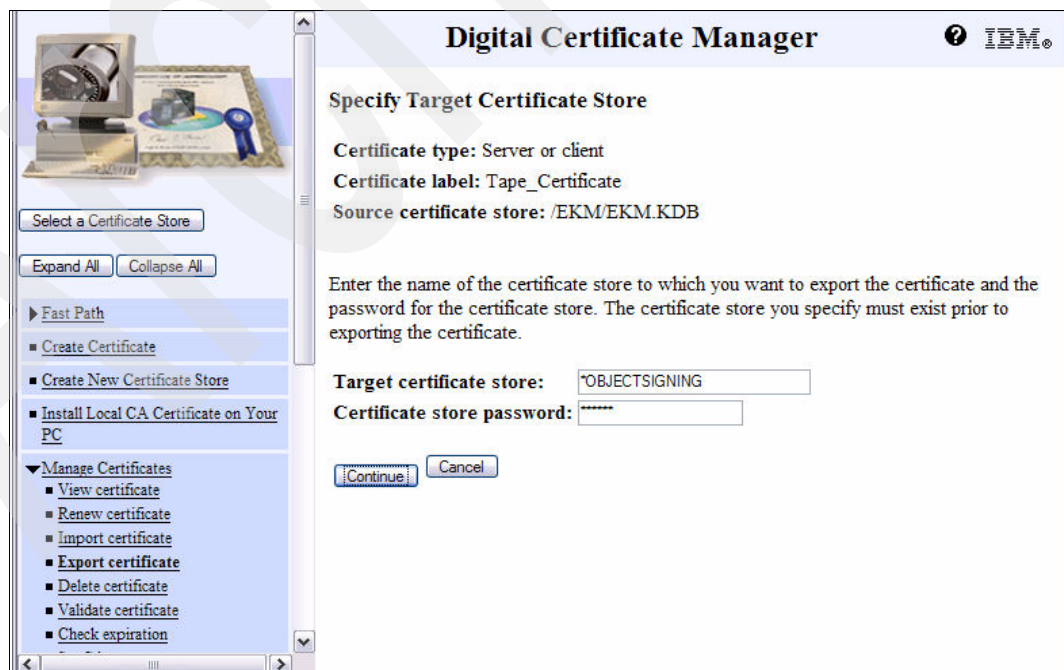

Figure 7-44 DCM Specify Target Certificate Store screen
11. After clicking **Continue**, specify the target certificate store by entering *OBJECTSIGNING and your password as shown in Figure 7-44. DMC automatically replaces *OBJECTSIGNING by its full IFS file path name.